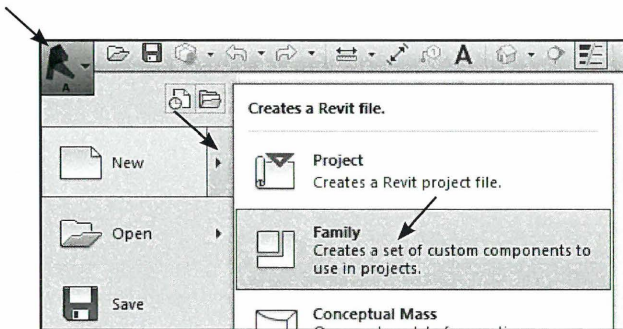

Fig. 09.01. New - Family.
- Klik *Application Menu* - *New* - *Family* (Fig. 09.01).